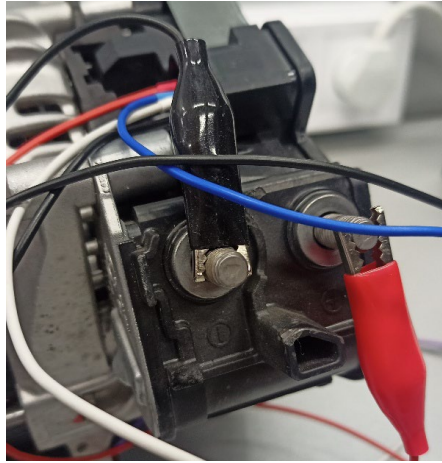

Figure 29. Connecting the diagnostic cable to the power terminals
2.2. Connect the **red clamp** to **B+** and the **black clamp** to **B-** power terminals of the alternator (see Fig. 29).